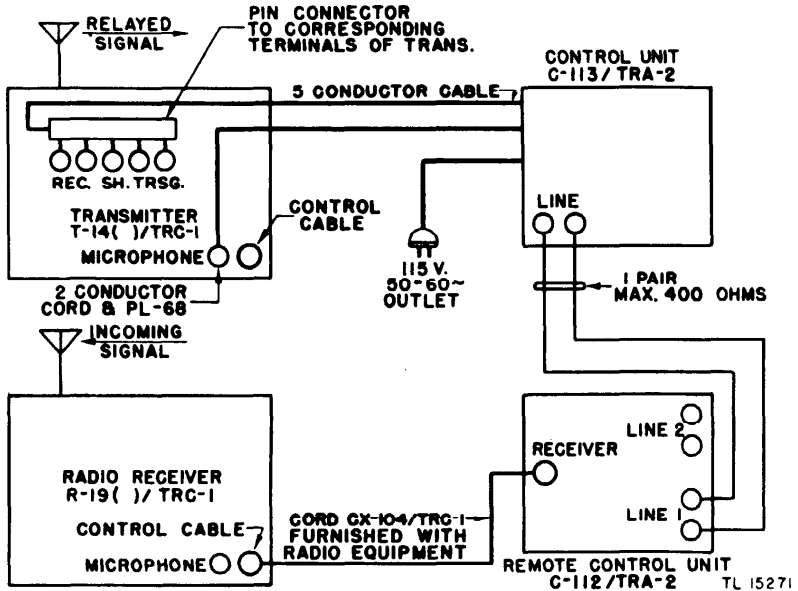
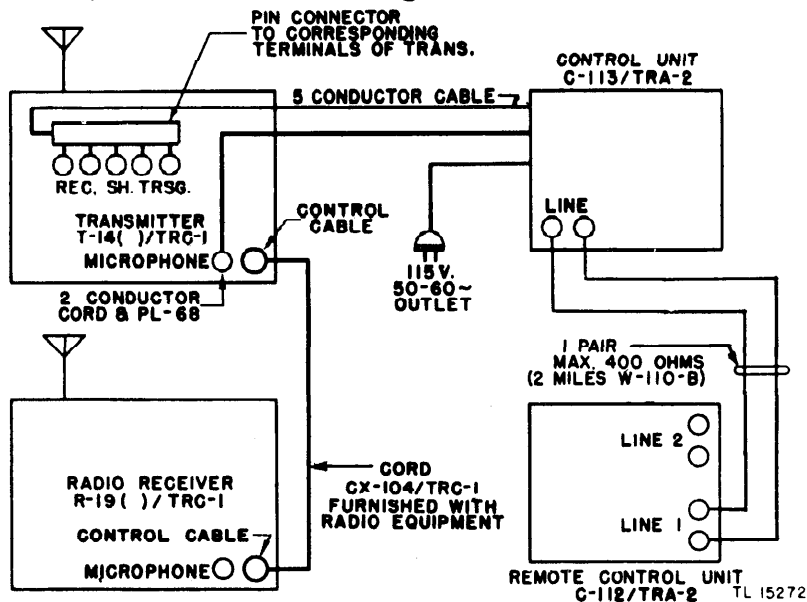
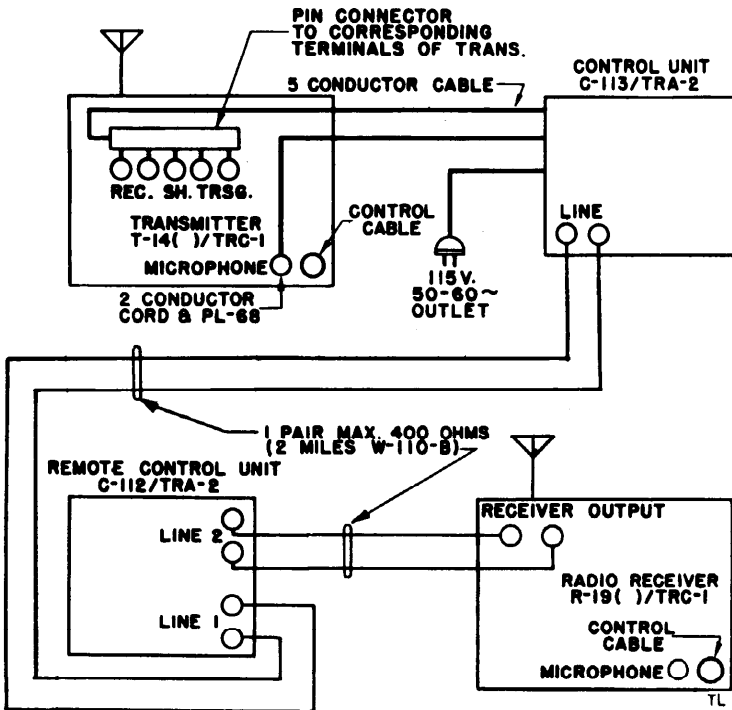

Fig. 4. Automatic relay operation, cording diagram.
Fig. 5. Radio remote control, two-wire, cording diagram.
Fig. 6. Radio remote control, four-wire, cording diagram.
(1) Connect the equipment as shown in figure 4.
(1) Connect as shown in figure 5.
(1) Connect as shown in figure 6.
(2) Set LINE SWITCH of Remote Control Unit C-112/
plugging in three sets of headsets and microphones. Either Chest Unit H-19()/U or Lip Microphone T-45, or both may be used. Normally Loudspeaker IS-11 is plugged into the loudspeaker jack. Headsets may be used for radio remote control, two-wire (fig. 5) and radio remote control, four-wire (fig. 6). The loudspeaker is not generally used for automatic relay operation (fig. 4). Plugging in a headset automatically disconnects the loudspeaker. Check position of LINE SWITCH for proper position to correspond to the particular method of operation. Rotate counterclockwise for installations corresponding to figures 4 and 5 (two-wire service) and clockwise for installations corresponding to figure 6 (four-wire service).
(1) RADIO TRANSMISSION. Operate switch on Handset TS-15() or H-23()/U and hold while talking. The voice will modulate Radio Transmitter T-14()/TRC-1 and will also be transmitted by field wire to Remote Control Unit C-112/TRA-2.
(2) INTERCOMMUNICATION (fig. 4 and 5). Operate INTERCOM. switch in the direction of the arrow on the panel and hold to prevent modulation of the transmitter. Operate thumb switch on handset and hold only while talking. *Release thumb switch when listening.*
* → NOTE: Intercommunication feature is not provided for installations corresponding to figure 6 (four-wire service). In an emergency, however, where intercommunication is essential without modulating the transmitter, rotate LINE SWITCH counterclockwise to the TWO WIRE position. Operate as outlined above. Restore LINE SWITCH to FOUR WIRE position when normal operation is resumed.
(1) RADIO TRANSMISSION. Operate push-button switch on Chest Unit H-19()/U (chest unit D-173249) or cord switch of Lip Microphone T-45, and hold while talking.
(2) INTERCOMMUNICATION (fig. 4). Operate INTERCOM. switch in the direction of the arrow on the panel and hold when necessary to increase listening level, but only if it *does not* interfere with operation of radio. This switch need not be used on installations corresponding to figure 5.
(10) R103-1 and R103-2, 100-ohm resistors, are for relay control, and are used only on automatic relay operation (fig. 4).
(11) R104-1, R104-2, and R104-3, 250-ohm resistors, compensate for insertion of one to three headsets.
(12) S102 is the line switch which separates line 1 from line 2 on remote control, four-wire operation.
(13) S103 is the intercommunication switch which increases INTERCOM. listening level on automatic relay operation.
(14) RL101 is a combination relay and autotransformer, microphone-to-line, and matches the input impedance of Control Unit C-113/TRA-2. The contacts control the sidetone reduction circuit, and disconnect the loudspeaker circuit.
(15) V101 is a varistor which absorbs clicks in the headset circuit.